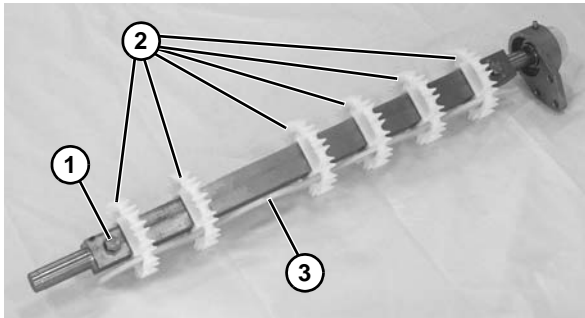

Figure 67
5. Remove bolt (**Figure 67, item 1**), to slide sprockets (**Figure 67, item 2**) from spindle shaft and sprocket alignment bar (**Figure 67, item 3**).